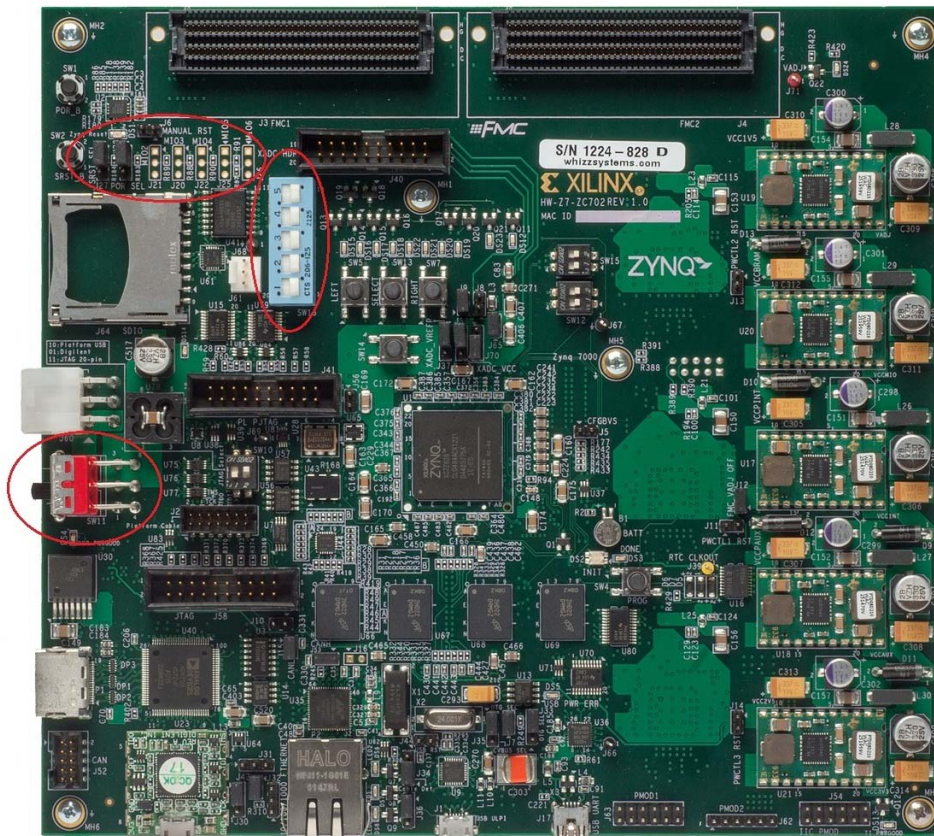

Figure 2-6: ZC702 Board Power Switch
4. Power on the ZC702 board using the switch indicated in Figure 2-6.
**IMPORTANT:** Ensure that jumpers J27 and J28 are placed on the side farther from the SD card slot and change the SW16 switch setting as shown in Figure 2-6.